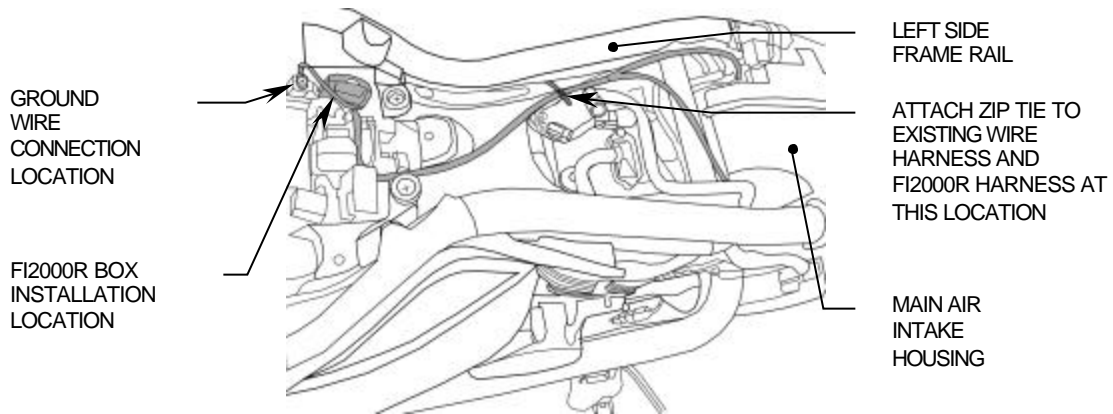

FIGURE 3: Fi2000R ECU & HARNESS INSTALLATION LOCATION AND ROUTING
4. Re-install the air filter housings, routing the left side harness up and over the air intake boot, then tighten the air boot clamps. Ziptie the Fi2000R harness to the main bike harness and Velcro the Fi2000R control module as shown in Figure 3.
6. Remove the door from the Fi2000R module to expose the LED's. Verify the wire connections by, (1), turning on the ignition while watching the 3 LED's. They will all light up for a few seconds, and then go off. This is correct. If there are no lights visible, make sure the side stand is up, bike is in neutral, clutch is in and handlebar engine switch is set to run. If there are still no lights visible, re-check that all connectors are fully engaged and the ground wire is connected correctly.